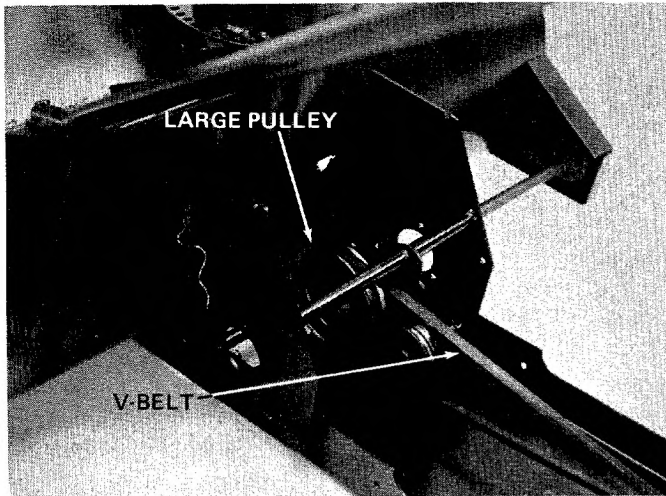

FIGURE 14
11. Position V-belt over large pulley on snow thrower housing. See figure 14.